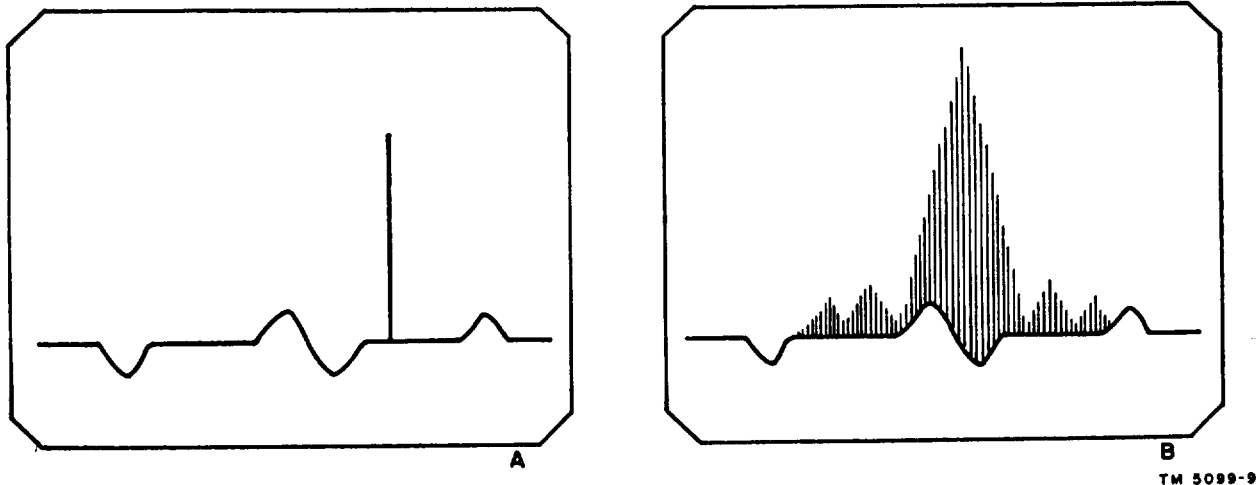

Figure 7. Representative displays with signal present, SPECTRUM WIDTH full clockwise.
e. Apply the signal, from the radar transmitter or other source, to the RF INPUT receptacle on the spectrum analyzer through the antenna horn or a directional coupler (figs. 5 and 6). The average power of the signal must not exceed 1 watt (+30 dbm). A spectrum pattern (B, fig. 7), or, in the case of a cw signal, a single vertical line should appear on the scope (A, fig. 7).
single line (A, fig. 7) or two lines; a pulsed signal appears as one (B, fig. 7) or two spectrum displays. The individual lines in the spectrum represent frequency components of the pulsed signal. However, the *number* and *spacing* of these lines depend on many factors other than the frequency components of the pulsed signal: for example, the settings of the SWEEP RATE and SPECTRUM WIDTH controls. The lines have, therefore, very little significance as such. It is the *shape* of the spectrum *envelope* that yields significant information about the nature of the modulating pulse.